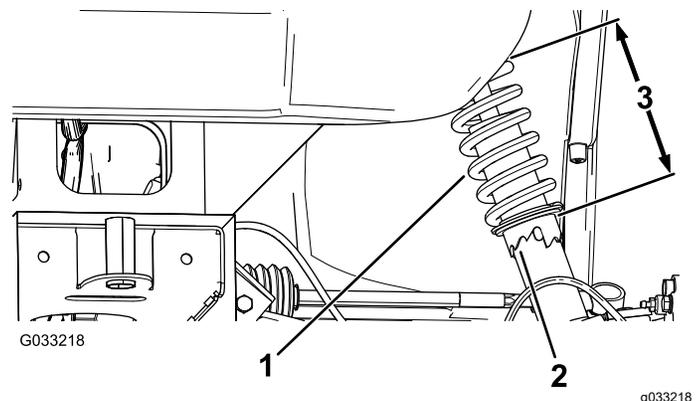

Figure 56
- If the wheel camber is out of alignment, use the spanner wrench to rotate the collar on the shock absorber to align the wheel (Figure 56).